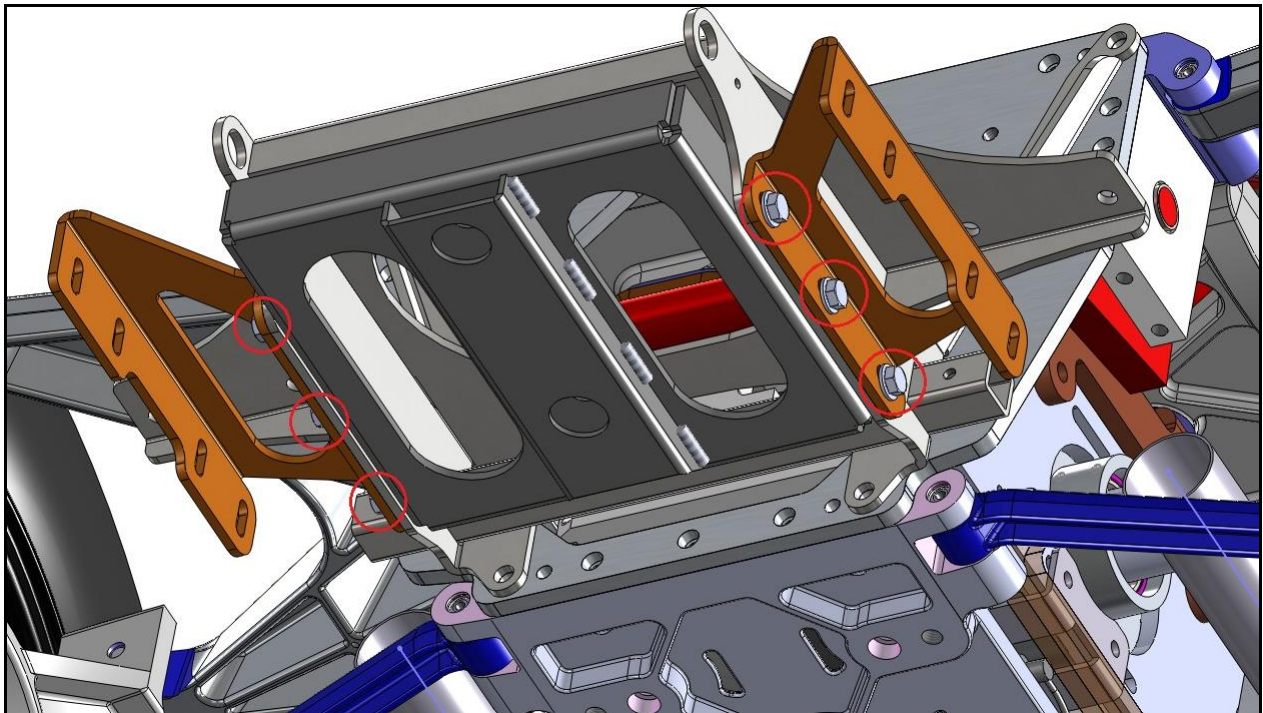

fig 6
3. Using the lower holes, Install three 5/16 – 18 x 1 1/4 HHCS and three 5/16 flat washers thru the Exhaust Mount and the Body Frame from the outside in (see fig 6).